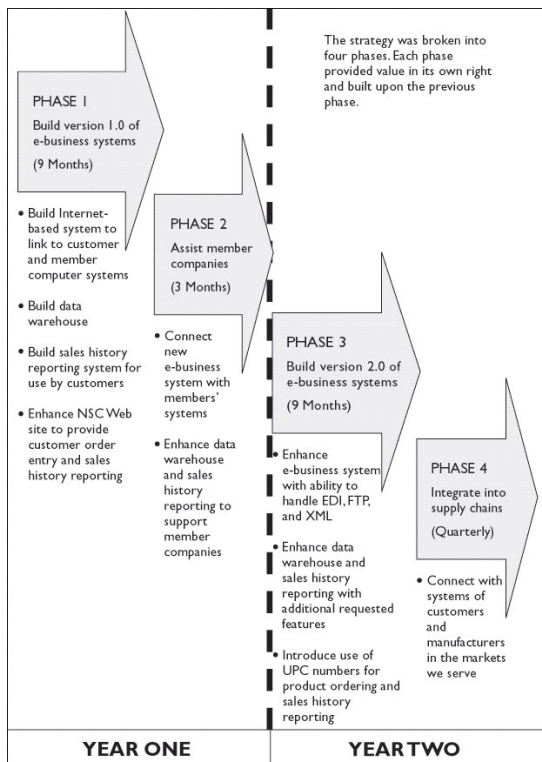

Figure 8-2. Network Services development strategy.
- How can the implementation of these ideas be broken up into phases that can each be completed in three to nine months? A phase needs to create deliverables that provide value in their own right and that can be put to use as soon as the phase is completed. **Figure 8-2** shows the two-year plan for Network Services' development strategy as an example.